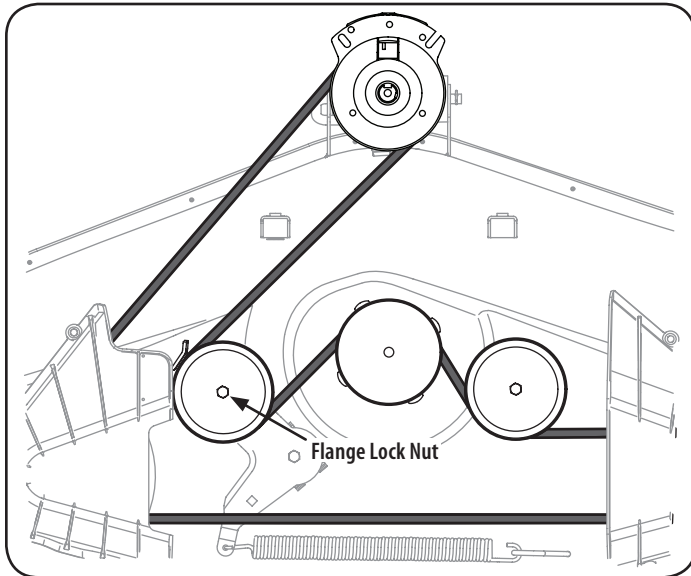

Figure 25
- Loosen, but do not remove the flange lock nut on the left idler pulley. See Figure 25.